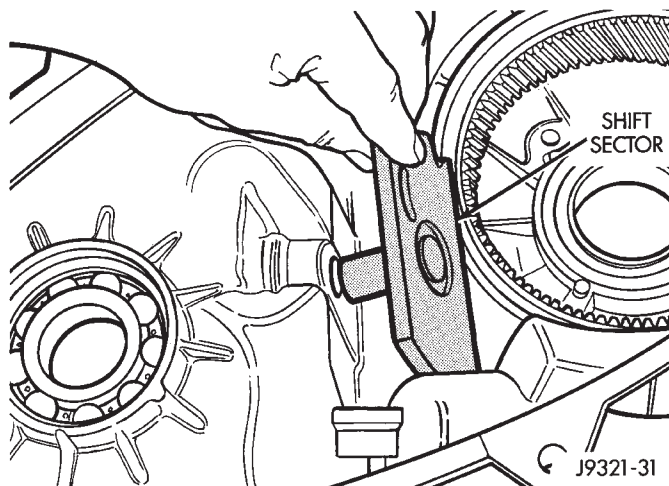

Fig. 46 Shift Sector Removal
(32) Remove shift sector. Rotate and tilt sector as needed to remove it (Fig. 46).
(1) Support front case on wood blocks. Position case so sector shaft bore and input gear bearing are accessible.
(2) Lubricate sector shaft, O-ring and shaft bore (in case) with petroleum jelly.
(3) Install sector in case (Fig. 46).